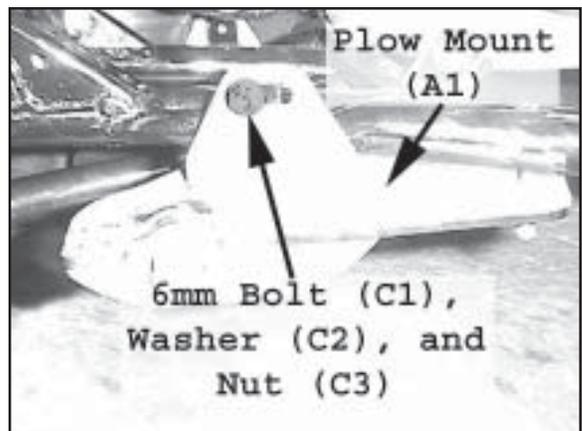

Figure 4 Attach Plow Mount
3. Attach a 6mm dia-20mm long bolt (B1), 1/4" washer (C2), and 6mm nylock nut (B2) through the rear tabs in the Plow Mount (A1) and into the vehicle chassis as shown in Figure 4. Attach the head of the bolt and washer on the outboard side and the nut on the inboard side. **Do not tighten the fasteners just yet**, you will do this later in the installation.